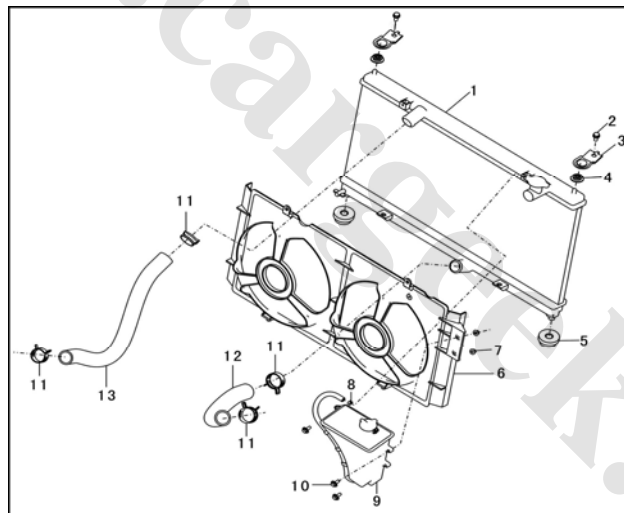

Fig. 2-81
### III. On-vehicle Maintenance as Shown in Fig. 2-81.
(1) Discharge and filling of coolant (refer to related details in this chapter).
(2) Removal and installation of engine cover (refer to related details in this chapter).
(3) Removal and installation of lower housing plate.
(4) Removal and installation of battery and the bracket. To disassemble according to Fig. 2-81.